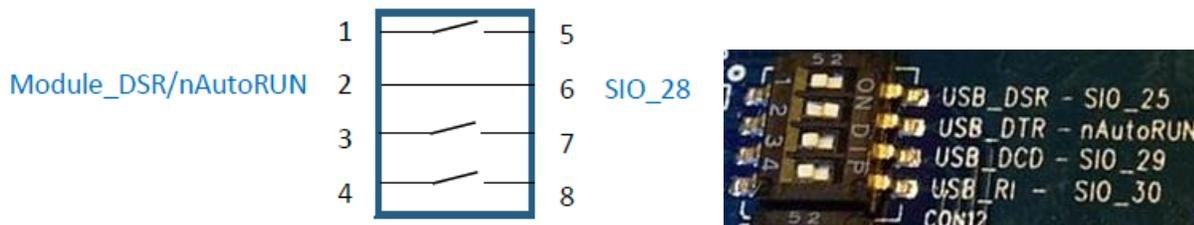

Figure 5: Micro DIP switch CON12 closed (nAutoRUN controlled by PC)
- CON12 (pin 2-6) MUST be CLOSED (in ON position) to allow PC (using uWTerminal) to control nAutoRUN pin (SIO.28); with no jumper fitted to J6 (see Figure 5).
**Note:** The additional lines of the DIP switch CON12 are not currently utilised and need to remain open, as shown in Figure 5.